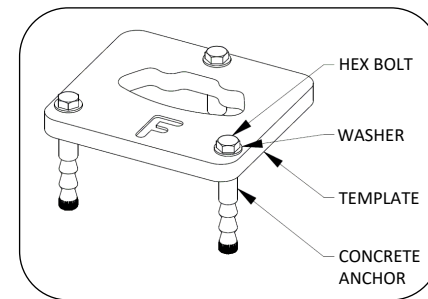

Fig. 3 – Assemble anchor template
5. Assemble the template, concrete anchor, washer and hex bolt as shown in Fig. 3.